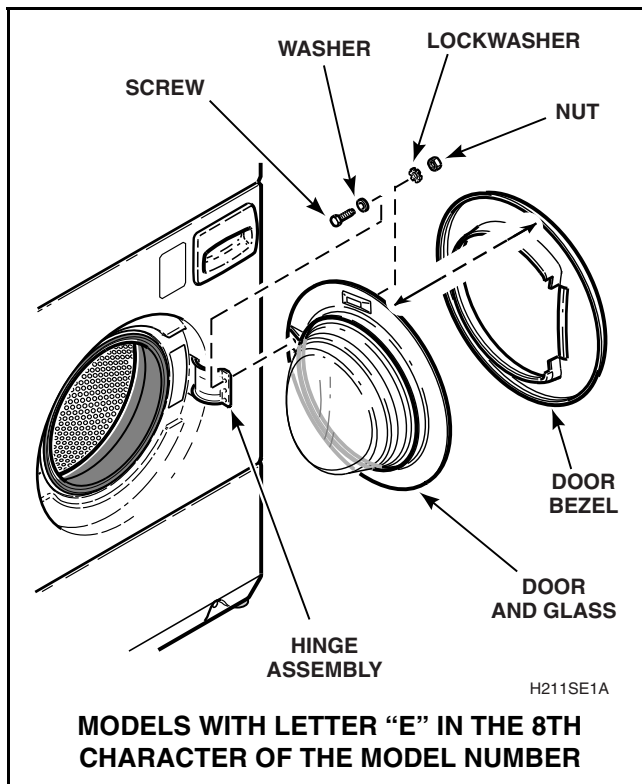

Figure 66
- Remove door bezel by prying inside lip up and forward with fingers. Refer to *Figure 66* or *67*.
- While supporting loading door, remove screws, lockwashers and nuts holding loading door to hinge assembly and remove door. Refer to *Figure 66* or *67*.